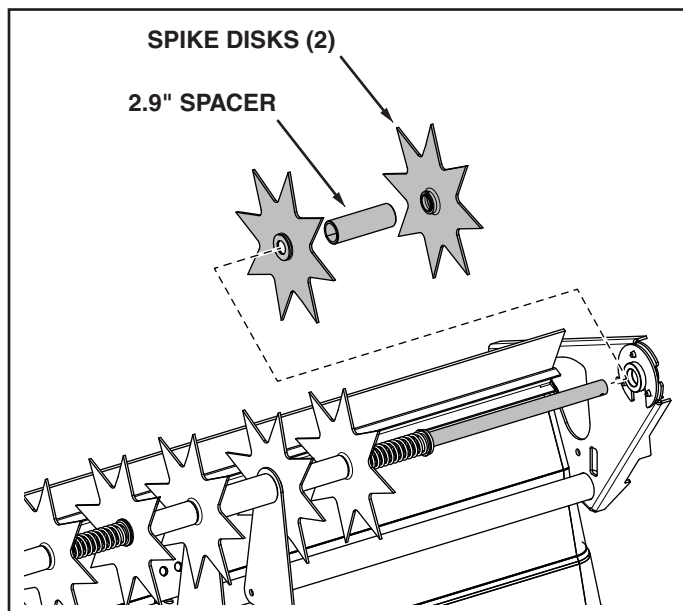

FIGURE 11
14. Assemble two spike disks and a 2.9" spacer onto the axle. The flat side of the disks should face away from the spacer. See figure 11.